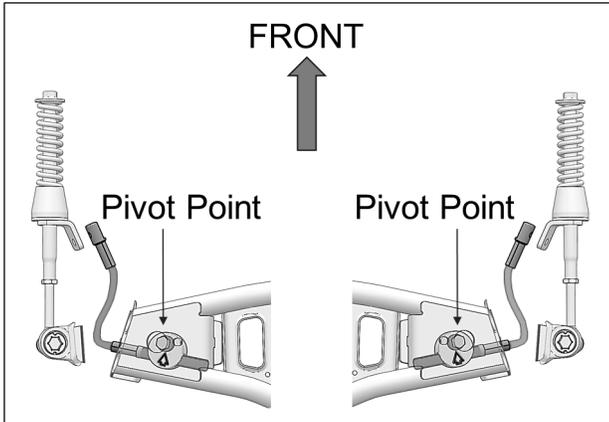

Fig. 30
17. Make sure aluminum disk pivot point is installed in front of steering limiter cable. See Fig. 30